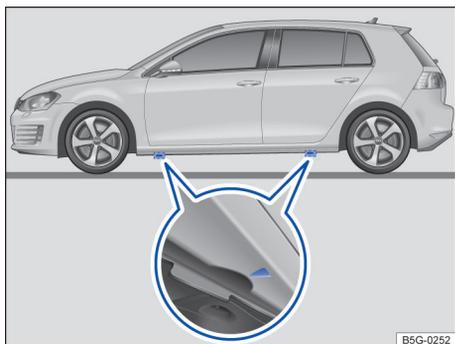

Fig. 189 Lift points for the jack.
The jack must be positioned at one of the 4 lift points located behind the markings on the vehicle body (2 on each side as shown in → fig. 189). You must use the lift point closest to the wheel being changed → ⚠️.
3. *Automatic or DSG transmission:* Shift the transmission to Park (P) → page 149, *Automatic or DSG® transmission selector lever.*
9. Find the jack lift point → fig. 189 on the vehicle frame that is closest to the wheel to be changed.